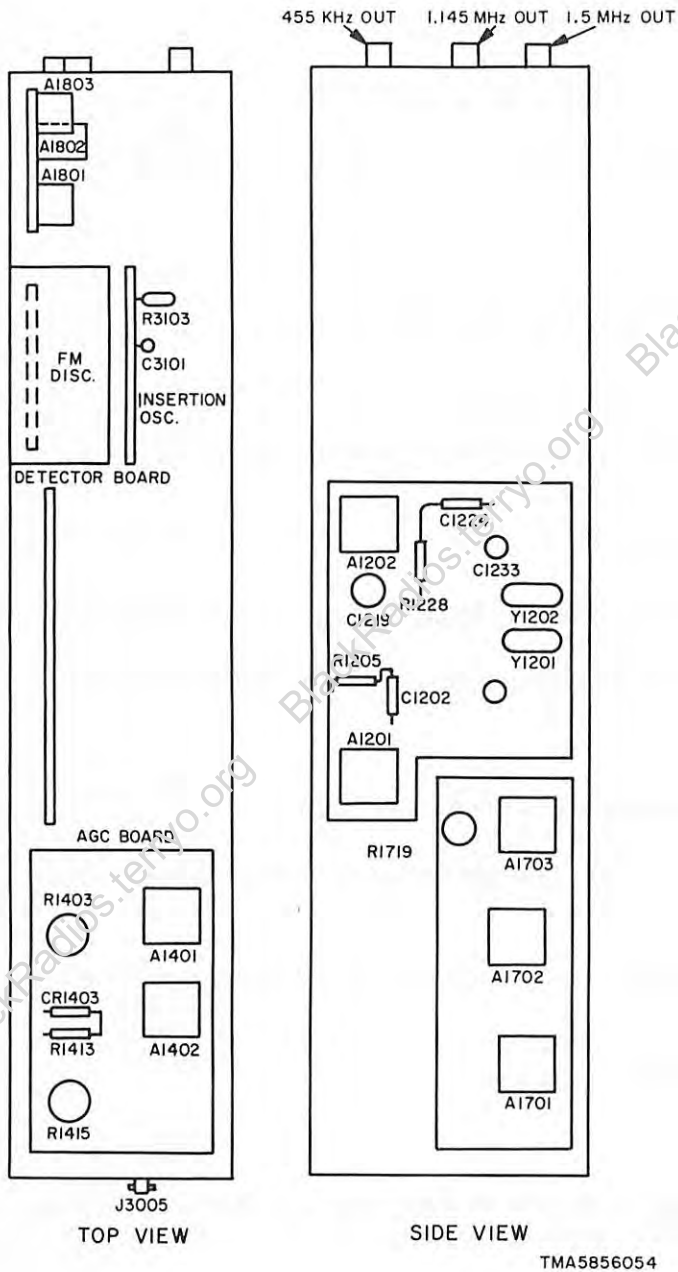

FIGURE 7-2 IF ASSEMBLY ALIGNMENT PARTS LOCATION
- (1) Connect the frequency counter to the 1.145 MHz IN/OUT jack.
- (2) Adjust C1806 until the frequency counter indicates 1.145 MHz.
- (3) Connect the signal generator to J3005, and adjust the signal generator for a frequency of 1.6 MHz with an output of 1,000-uV.
- (4) Set the function switch to AGC MED.
- (5) Connect the RF voltmeter, terminated with 50 ohms, to the 455 KHz OUT jack.
- (6) Adjust A1801, A1802, and A1803 for a maximum indication on the RF voltmeter.
h. FM Insertion Oscillator. (fig. 7-2).
- (1) Connect the RF voltmeter to the junction of R3103 and C3101.
- (2) Set the DETECTOR MODE switch to FM. The indication on the RF voltmeter should be at least 100 millivolts.
- (5) Connect the oscilloscope to E1903.
- (6) Adjust R2913 so that, when the signal generator frequency is shifted ± 6 KHz, the DC output from the discriminator varies .25 volts peak-to-peak (displayed on the oscilloscope).